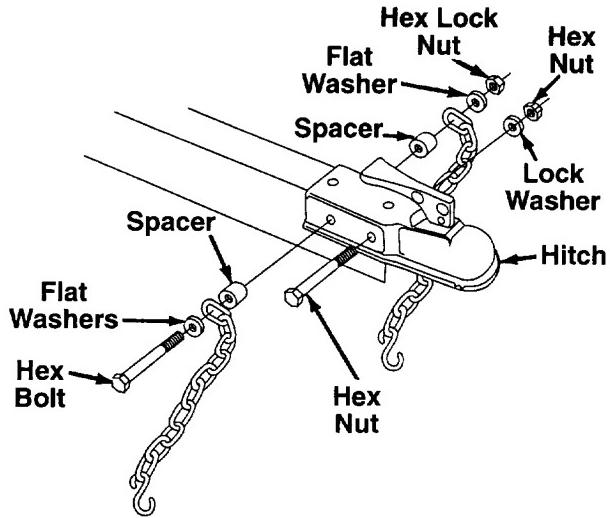

FIGURE 6.
- Place the hitch in position on the end of the tongue as shown in figure 6. Using hole closest to the jack stand, insert the hex bolt (with hardware attached) through hitch and tongue. Pivot the first chain link on the hex bolt so it faces the ball end of hitch.